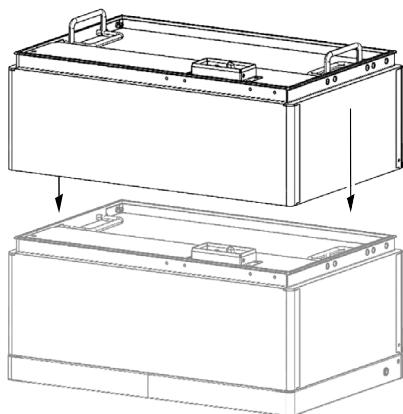
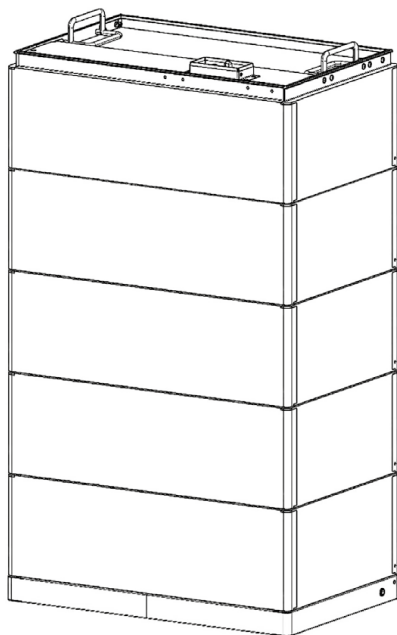

Fig. 3.6 - Module pile up
Fig. 3.7 - five module system
- Continue to install the left battery modules one by one onto the existing battery (Fig. 3.6, Fig. 3.7).